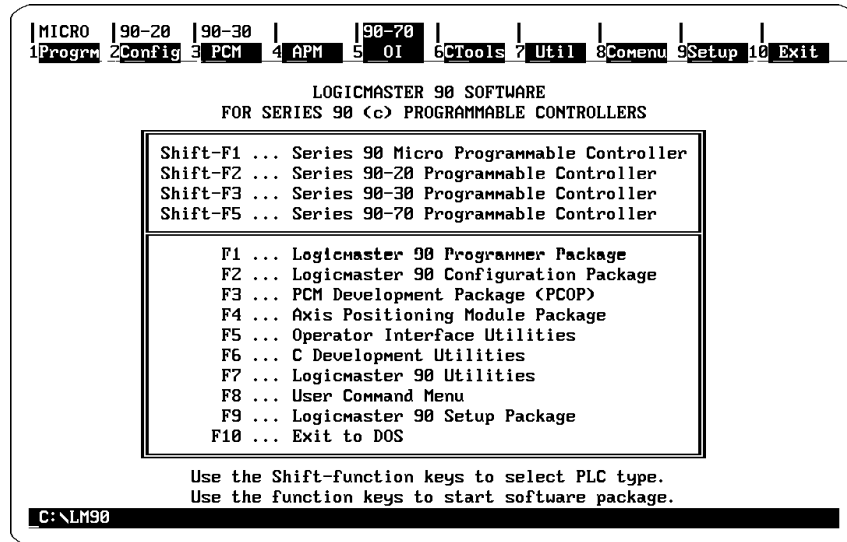

Figure 4-1. Logicmaster 90 Software Main Menu
- 1. First choose a Series 90-30 or Series 90-70 PLC at the Logicmaster 90 main menu (as shown in Figure 4-1, above) by pressing **Shift+F3** or **Shift+F5**.